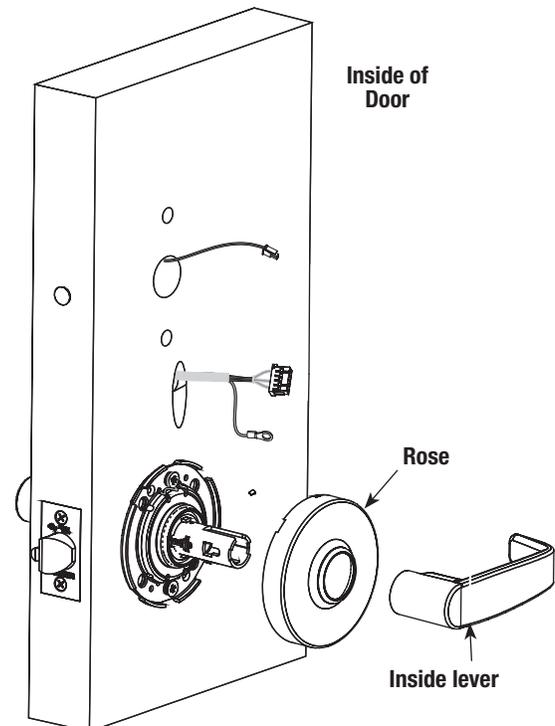

Fig. 9
1. Verify spacer bushing is inserted horizontally and aligned with lever (Fig. 9).